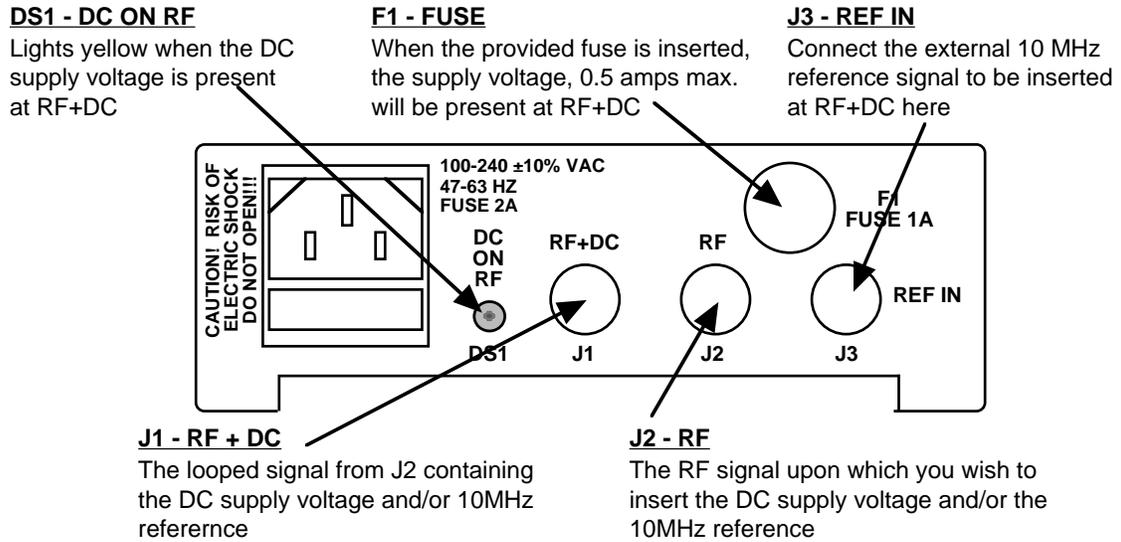

FIGURE 2.2 Rear Panel I/Os
2.2 Rear Panel Input/Output Signals - Figure 2.2 shows the input and output connectors on the rear panel.
1. Connect an RF signal to RF connector, J2 (Figure 2.2).
2. Connect RF+DC connector, J1, to the external equipment (Figure 2.2).
3. To insert +12VDC, +15VDC, +18VDC or +24VDC on the RF signal insert a 1 amp fuse (provided) in fuse holder, F1 (Figure 2.2).
4. To insert a 10MHz reference signal on the RF signal connect a 10MHz source to the REF IN, J3 (Figure 2.2).
5. Connect 100- 240 \pm 10% VAC, 47 - 63 Hz to AC on the back panel (Figure 2.2).
7. If fuse, F1, is inserted check that LNB Power LED, DS1, is on (Figure 2.2)